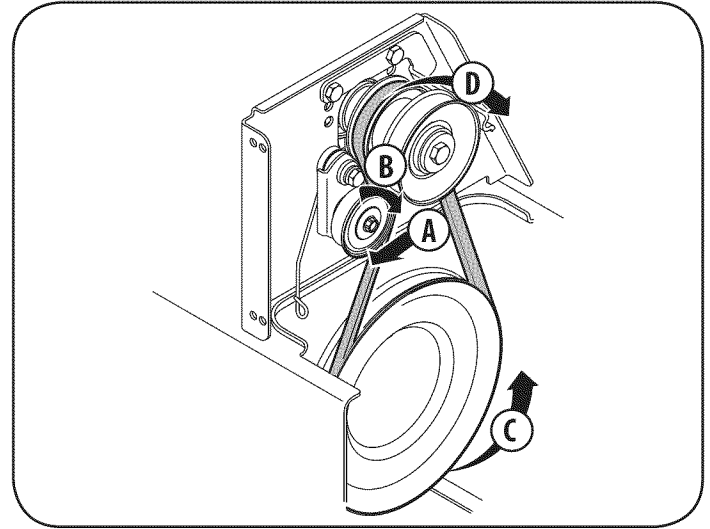

Figure 35
- Pull the idler pulley away from the backside of the drive belt to relieve the tension. See (A) in Figure 35.
- Slip the drive belt off the idler pulley. Carefully release the idler pulley. See (B) in Figure 35.
- Roll the drive belt off the lower drive pulley. See (C) in Figure 35.
- Remove the belt from the engine pulley. See (D) in Figure 35.